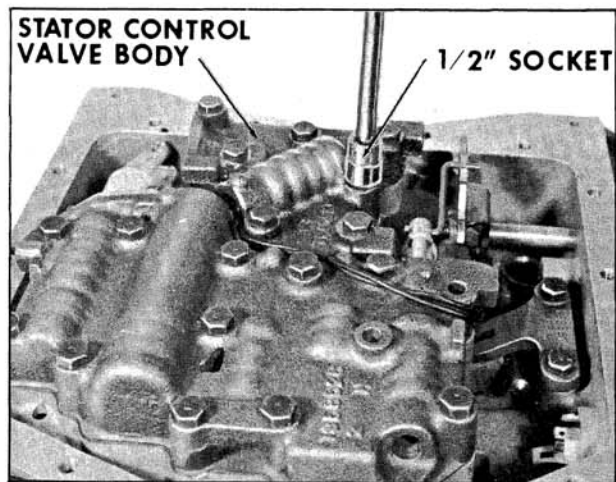

Fig. 6-354 Removing Stator Control Valve Body
6. Remove seven bolts retaining stator control valve body to transmission case using a 1/2" socket. Remove stator control valve body. (Fig. 6-354)